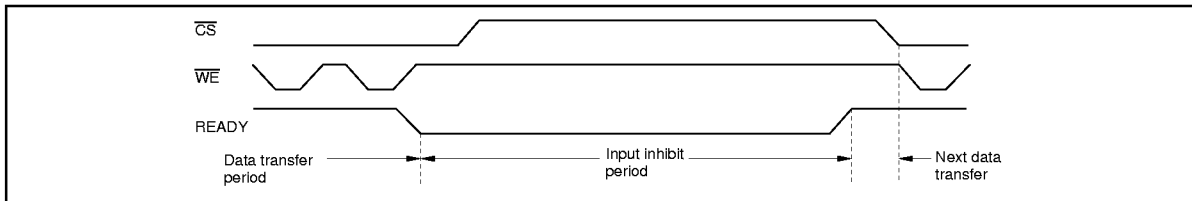

Figure 14 READY Output Timing (When It Is Always Available)
- a. READY is always available (Figure 14).